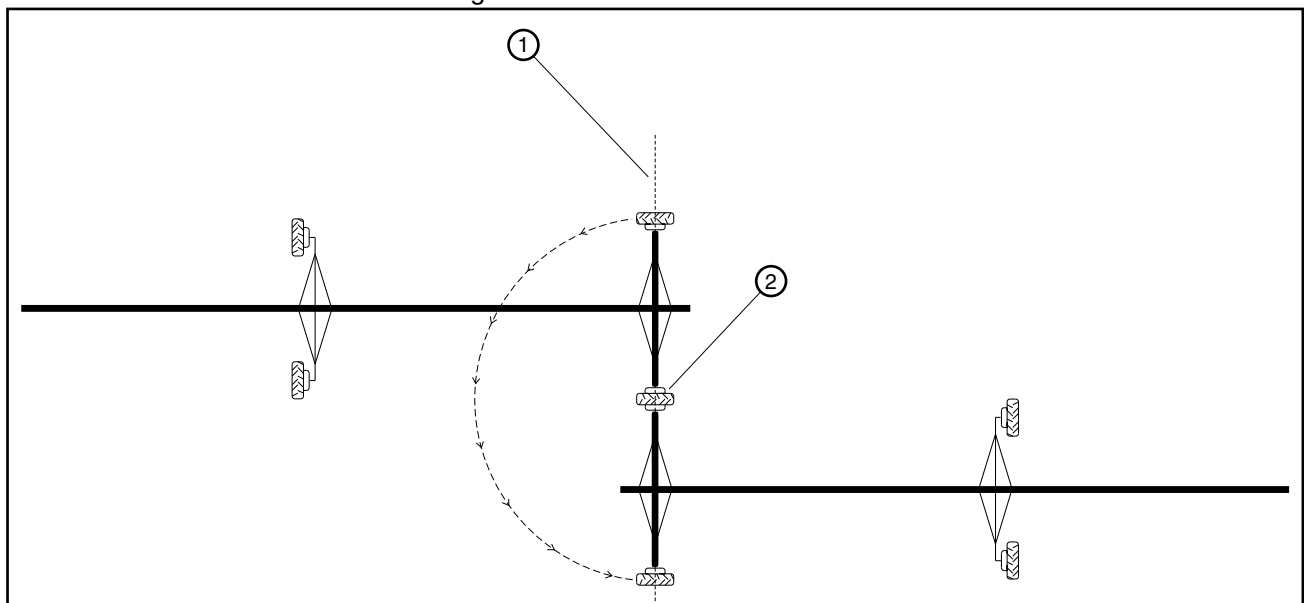

Figure 73-3 Fixed Wheel method.
6. When the machine is started it will pivot around the center of the fixed wheel. See figure 73-3.